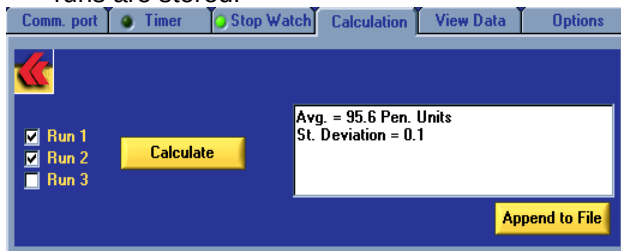

Figure 6: Calculation Tab
6. **Calculation Tab.** This feature, shown in Figure 6, allows you to calculate the average and the standard deviation of up to three runs present on the main screen. This information can be useful when determining repeatability according to the particular test method being conducted. Click on the "Append to File" button to add these calculations to the data file where the three runs are stored.